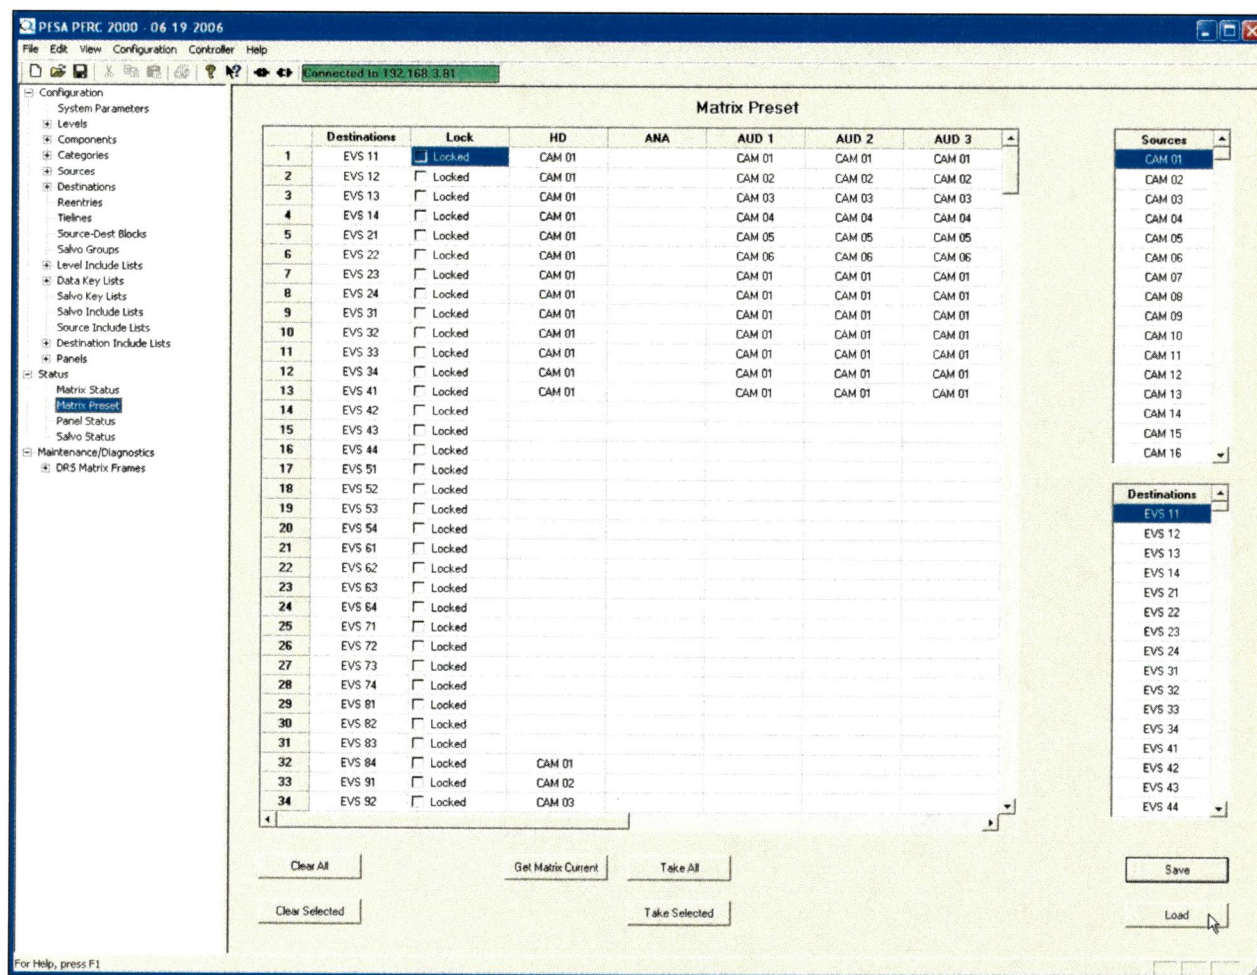

Figure 53. Matrix Preset Window
- ☐ 10. Locate and click on the Matrix Preset command in the left pane of the GUI display, as shown in Figure 53. This action will bring up the Matrix Preset display as shown. Click the **Load** button as shown.